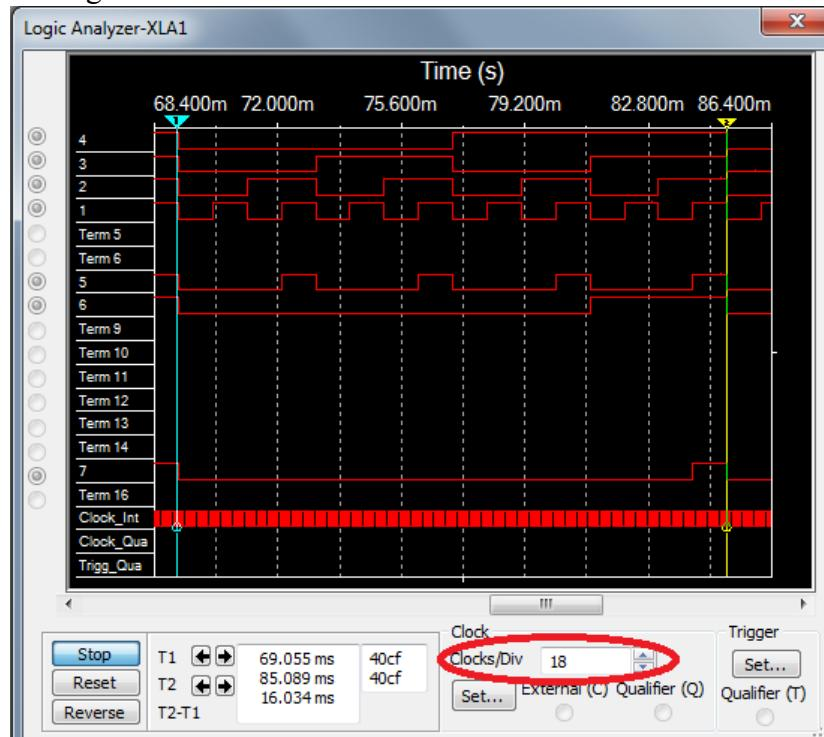

Figure 9. Waveform 2.
- Run the simulation, and you will find the waveform as shown in Figure 9. You can change the “Clocks/Div” to zoom in/out in the time axis.